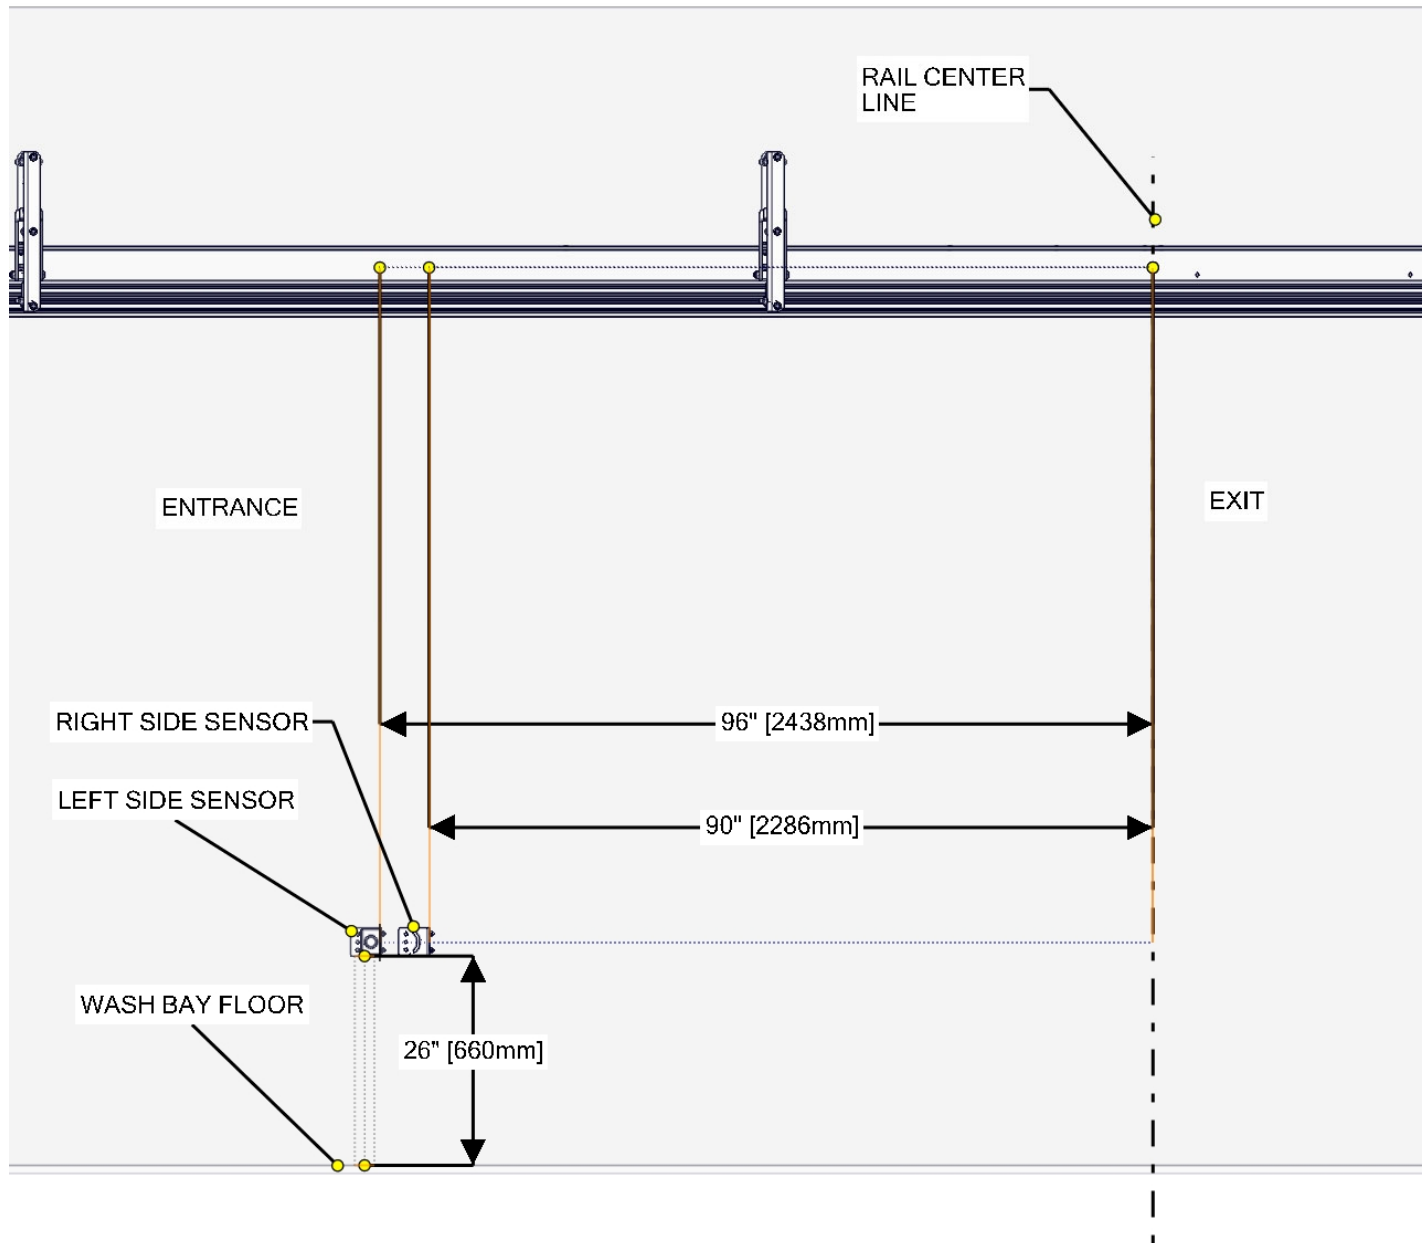

Figure 140 - Side Measurement Ultrasonic Locations
- Wall mounted or stand mounted sensors are installed in the wash bay per the dimensions shown in Figure 140. Regardless of if the sensors are wall mounted or stand mounted, the location for mounting uses the same dimensions from the main rail centerline as shown in Figure 140.